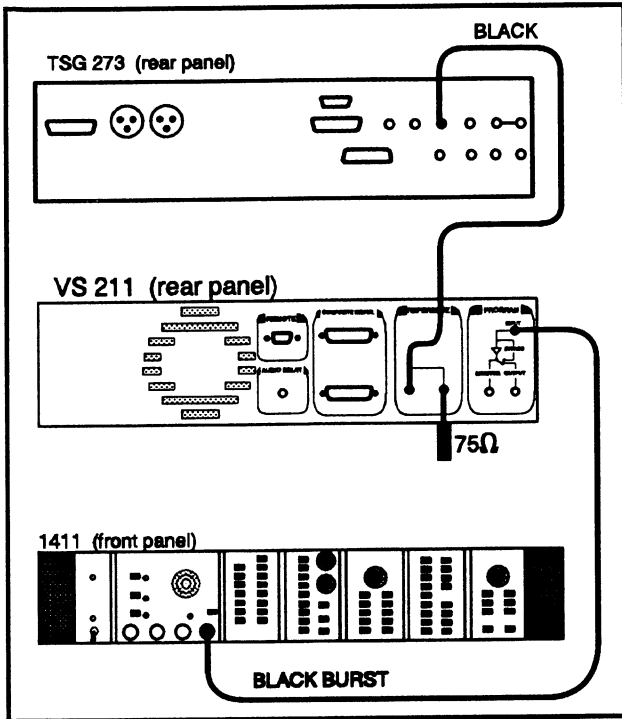

Fig. 4-2. Setup to check power-up conditions.
- a. Connect a Black Burst signal from a TSG 273 Test Signal Generator to the VS 211 REFERENCE INPUT and terminate the loop through connector in 75 Ω as shown in Fig. 4-2.
- c. Ensure that all of the diagnostic switches are in the OFF (0) position.